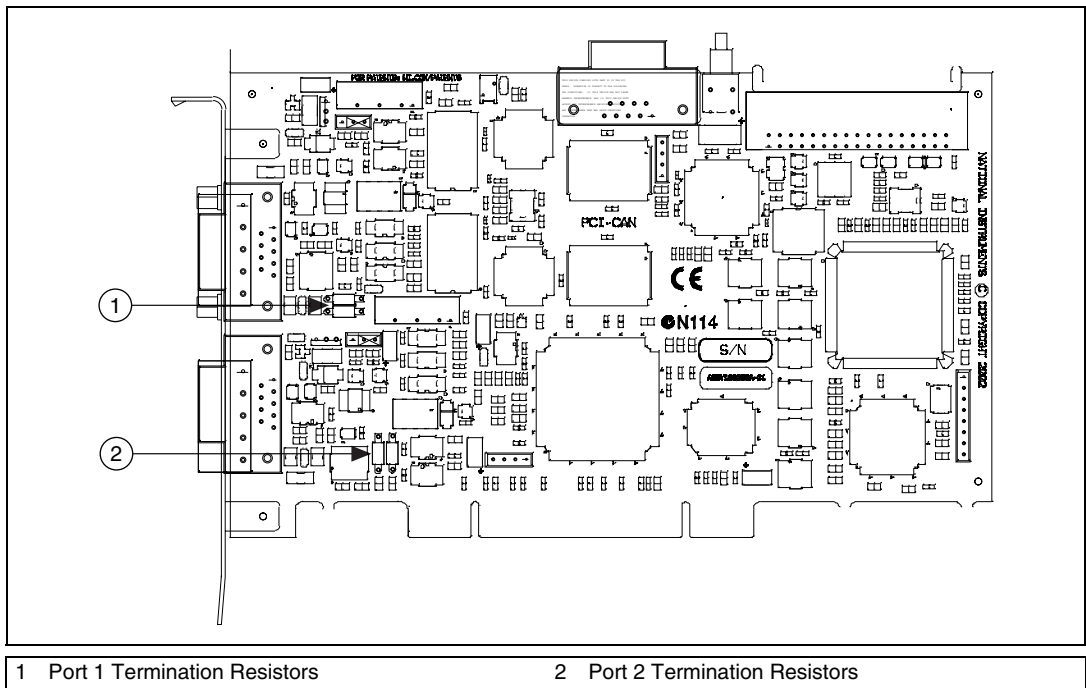

Figure 4-8. Location of Termination Resistors on PCI-CAN/LS2 Board
1. Remove the termination resistors on your low-speed CAN card. Figure 4-8 shows the location of the termination resistor sockets on a PCI-CAN/LS2 card.